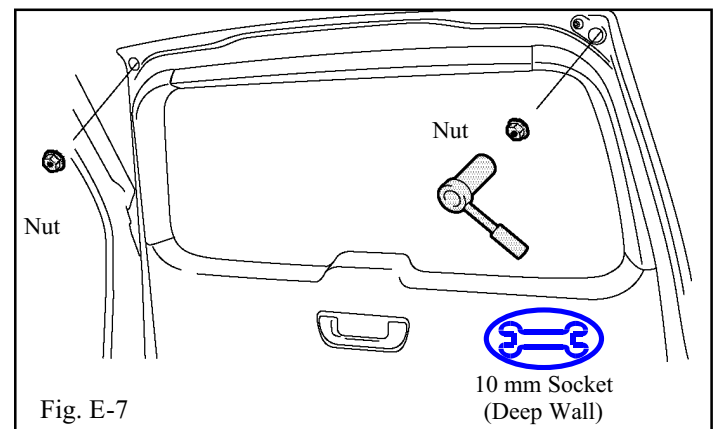

Fig. E-7
-  9. Open the door and install nuts (2 locations). (Fig. E-7).